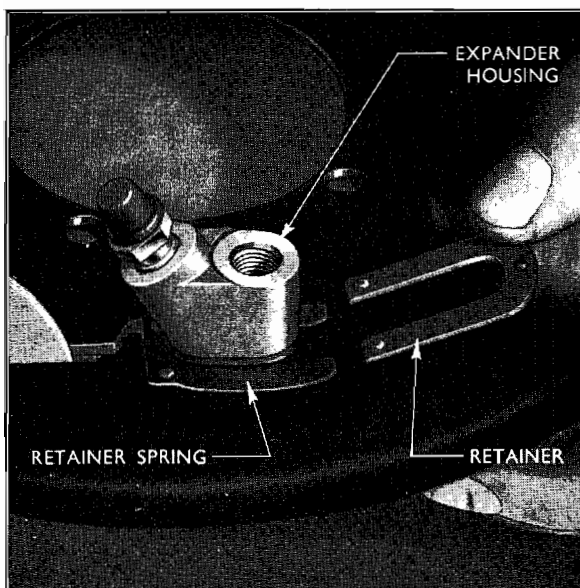

Fig. 11
3. Remove the expander housing rubber dust cover, the retainer and retainer spring. (See Fig. 11.) Unscrew the bleed valve and remove the valve.
5. Fit the retainer in the opposite end of the housing, ensuring that the dimples on the spring are locating those formed on the plate. (See Fig. 11.)